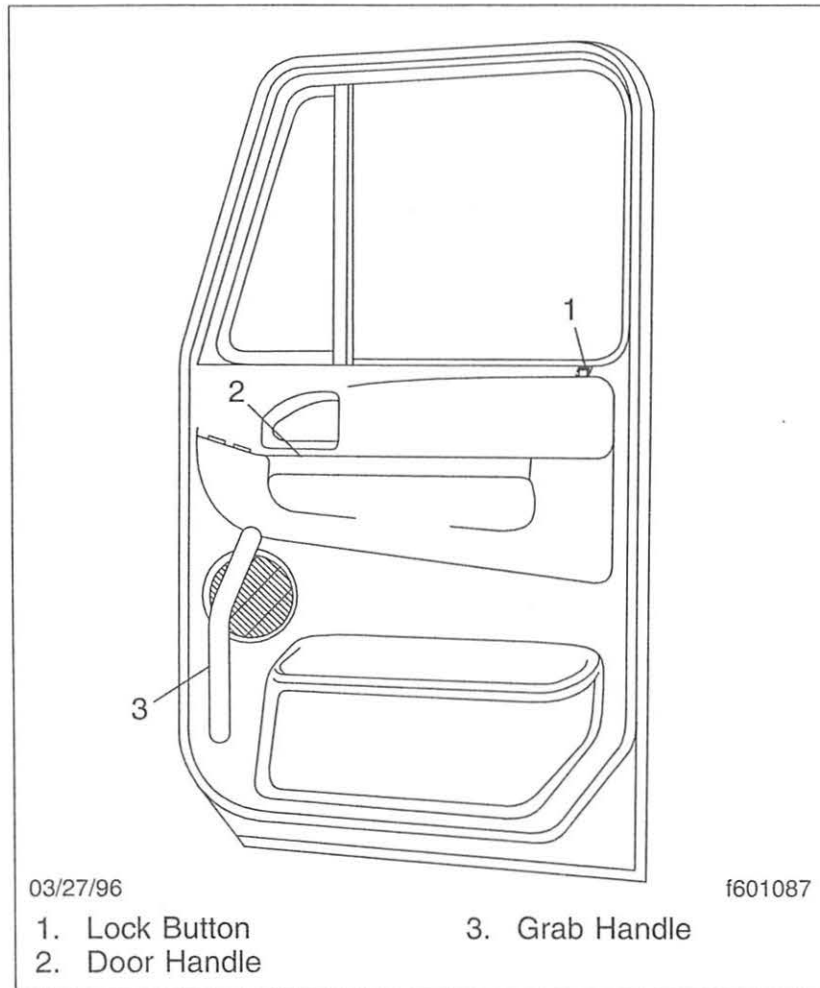

Fig. 3.5, Passenger's Door Interior
3. Grasp the handle on the door (**Fig. 3.5**, Ref. 4) with your right hand.
4. Move your right hand to the grab handle on the door (**Fig. 3.5, Ref. 4**).